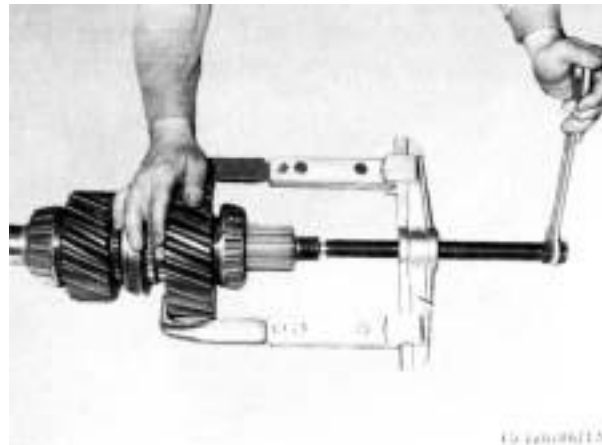

Fig. 5-20
- 6. When dismantling the input shaft, the double-arm puller should be used to pull out parts 13, 14 and 15 in Fig.5-12 (that is parts 1, 2 and 3 in Fig. 5-20). Use the same method to remove parts 6, 7 and 11 in Fig. 5-12.